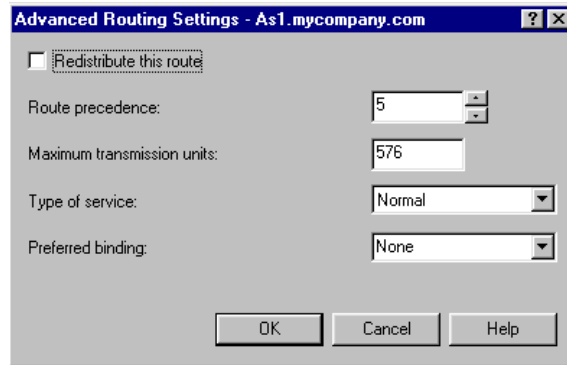

Figure 319. Advanced Routing Settings
11. Each of the Add route windows has an Advanced button. Specify the gateway address. Click the **Advanced** button. The Advanced Routing Settings window (Figure 319) appears.